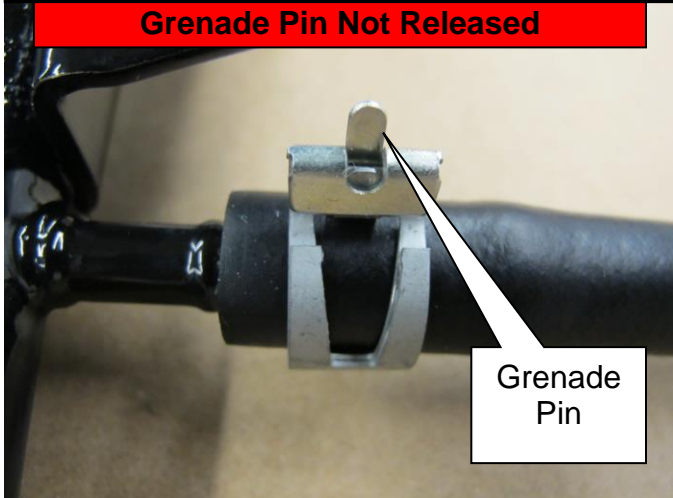

Figure 14
- Grenade pin not released (Figure 14).